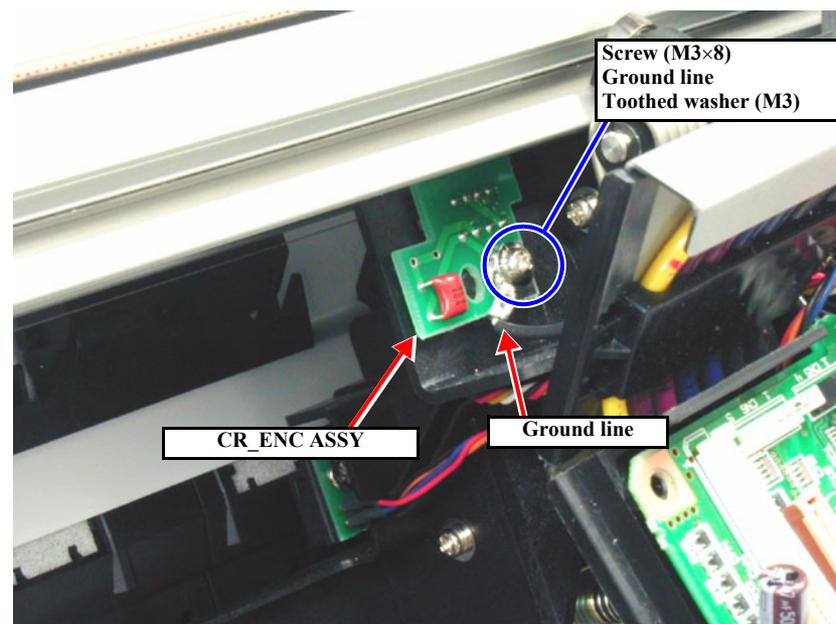

Figure 4-38. CR Encoder Sensor Removal 2/2
8. Remove one screw (CPP: M3×8) securing the CR\_ENC ASSY, ground line, and washer (M3). Then remove the CR\_ENC ASSY. (See Figure 4-38)